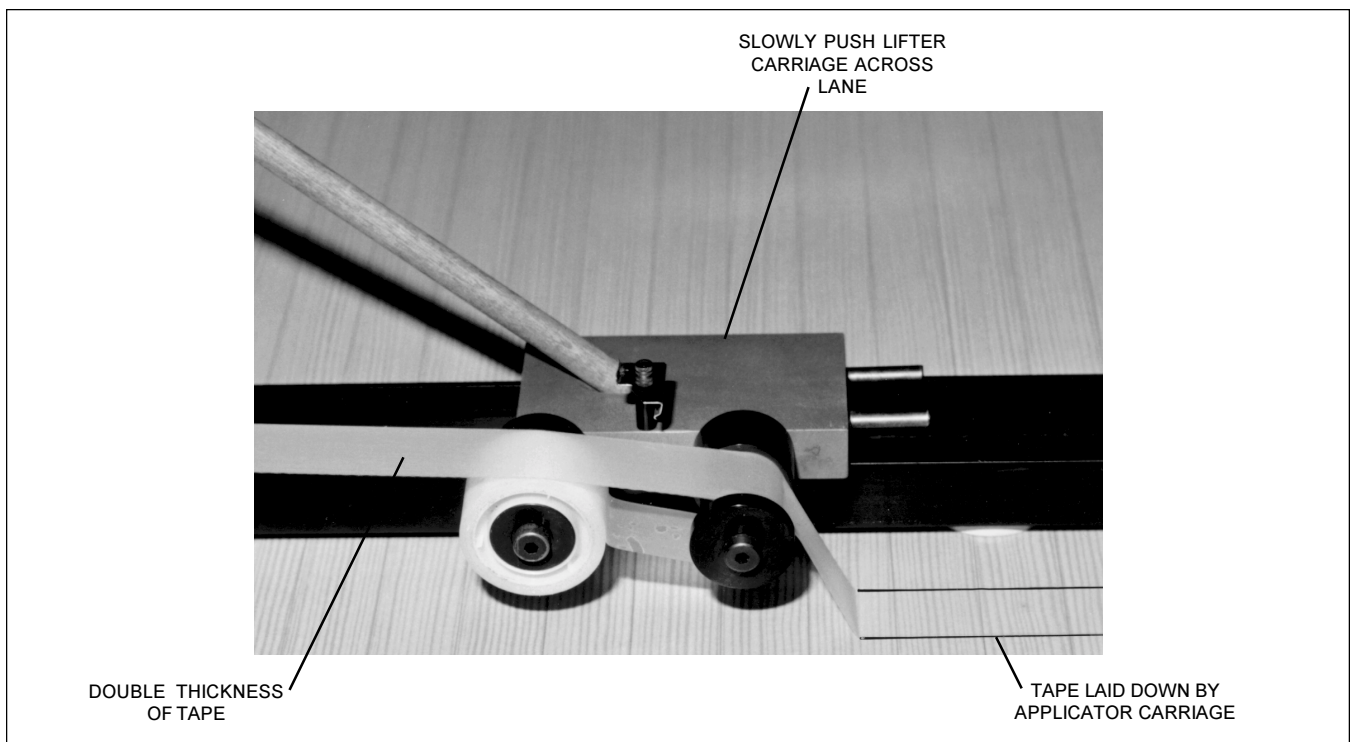

Figure 8 - Slowly Push Lifter Carriage Across Lane Until It Fully Mates with Applicator Carriage
6. Insert the push-rod into the recess on top of the lifter carriage and **slowly** push the carriage across the lane (Figure 8) until it fully mates with the applicator carriage.